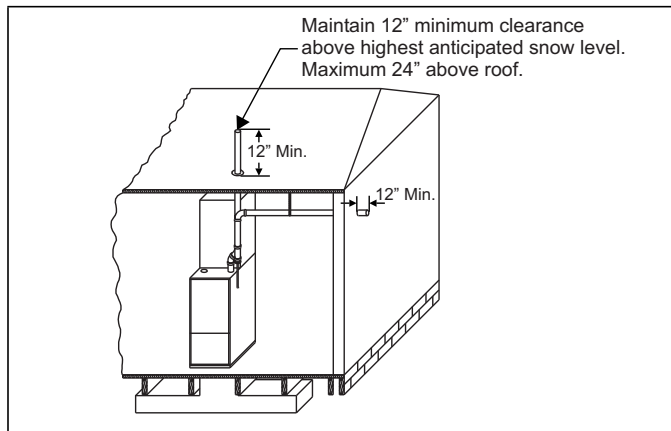
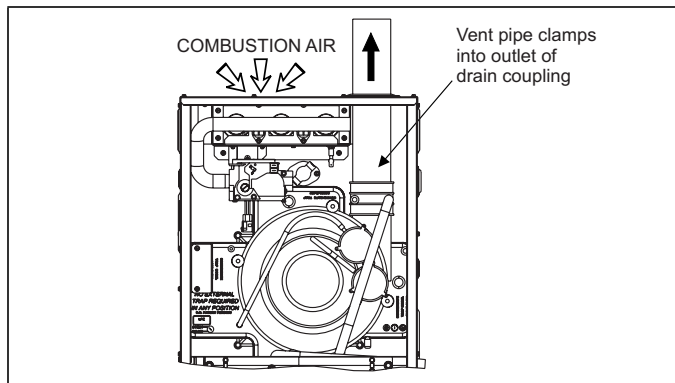

FIGURE 32: Termination Configuration - 1 Pipe
FIGURE 39: Combustion Airflow Path Through The Furnace Casing
The combustion air side of the single pipe configuration shown in Figure 39 is referred to in these instructions as ambient combustion air supply. Follow the instructions for ambient combustion air installations, paying particular attention to the section on air source from inside the building. The vent for a single pipe system must be installed as specified in the venting section of these instructions with both vents terminating as shown in Figure 32. Each furnace must have a separate vent pipe. Under NO circumstances can the two vent pipes be tied together.
2. **AMBIENT COMBUSTION AIR:** Combustion air is supplied from the area surrounding the furnace through openings in the furnace casing. The combustion air and the vent pipes are not terminated in the same atmospheric zone. Refer to Figure 32 for vent terminations. Refer to "Ambient Combustion Air Supply" for proper installation. Refer to Figures 39 and 40.